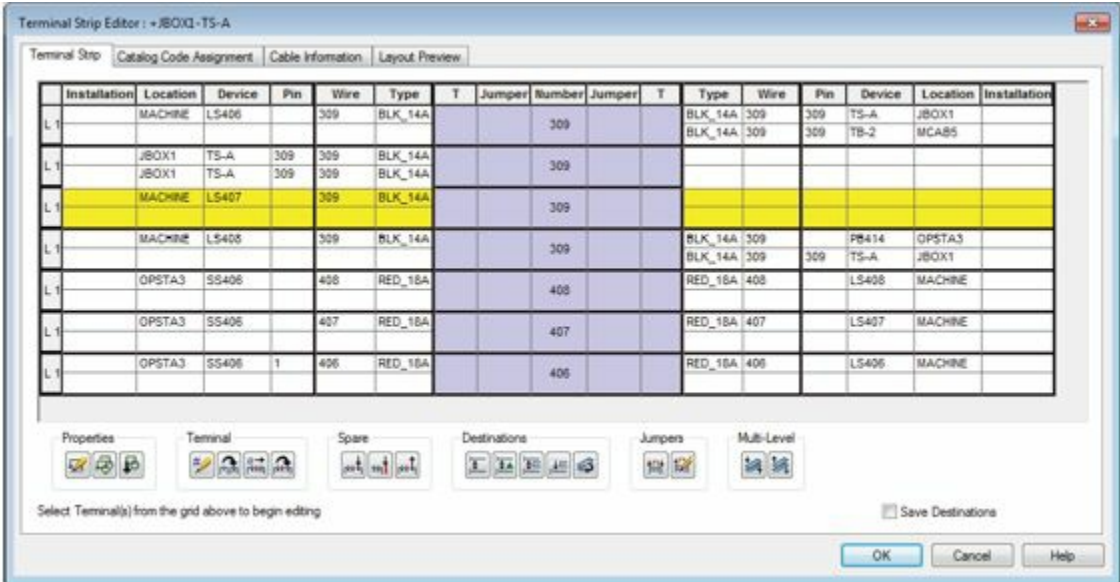

Figure-26. Terminal Strip Editor dialog box
- Click on the **OK** button from the dialog box. The **Terminal Strip Editor** dialog box will be displayed; refer to Figure-26.